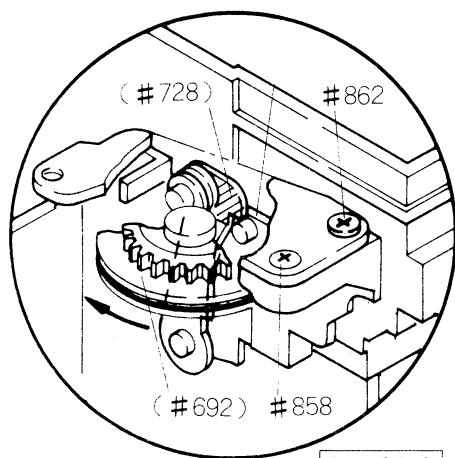

fig. 22-1
- 7) Lead wire B #1082, shutter switch (Orange) (fig. 22-1)
- 2) Rotate Winding roller (#692) clockwise until it contacts stopper (a part of #55; see fig. 22-1.)
Screw  $\oplus$  #858,  $\oplus$  #862 (fig. 22-1)